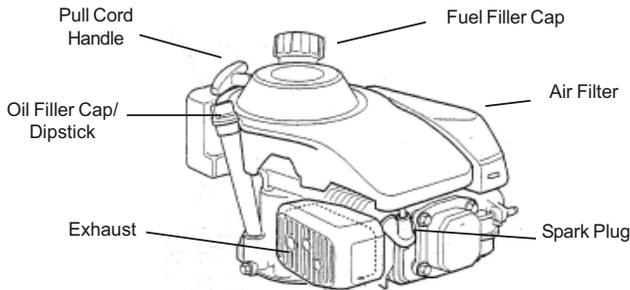

Figure 3
- Put SAE 10W-30 oil, in the oil filler (Figure 3). Do not overfill, the oil tank capacity is 0.55 litre.